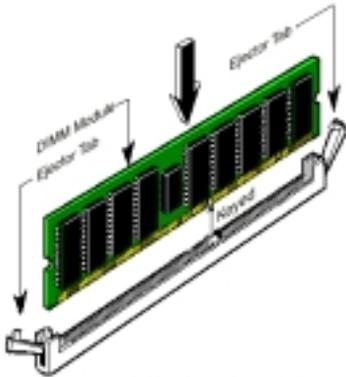

Figure 2-6. DDR DIMM module installation
- Step 5.** Insert the DDR DIMM module into the expansion socket as shown in the illustration. Note how the module is keyed to the socket. You can refer to Figure 2-6 for the details. ***This insures the DDR DIMM module will be plugged into the socket in one way only.*** Firmly press the DDR DIMM module into the DDR DIMM socket, making certain the module is completely seated in the DDR DIMM socket.